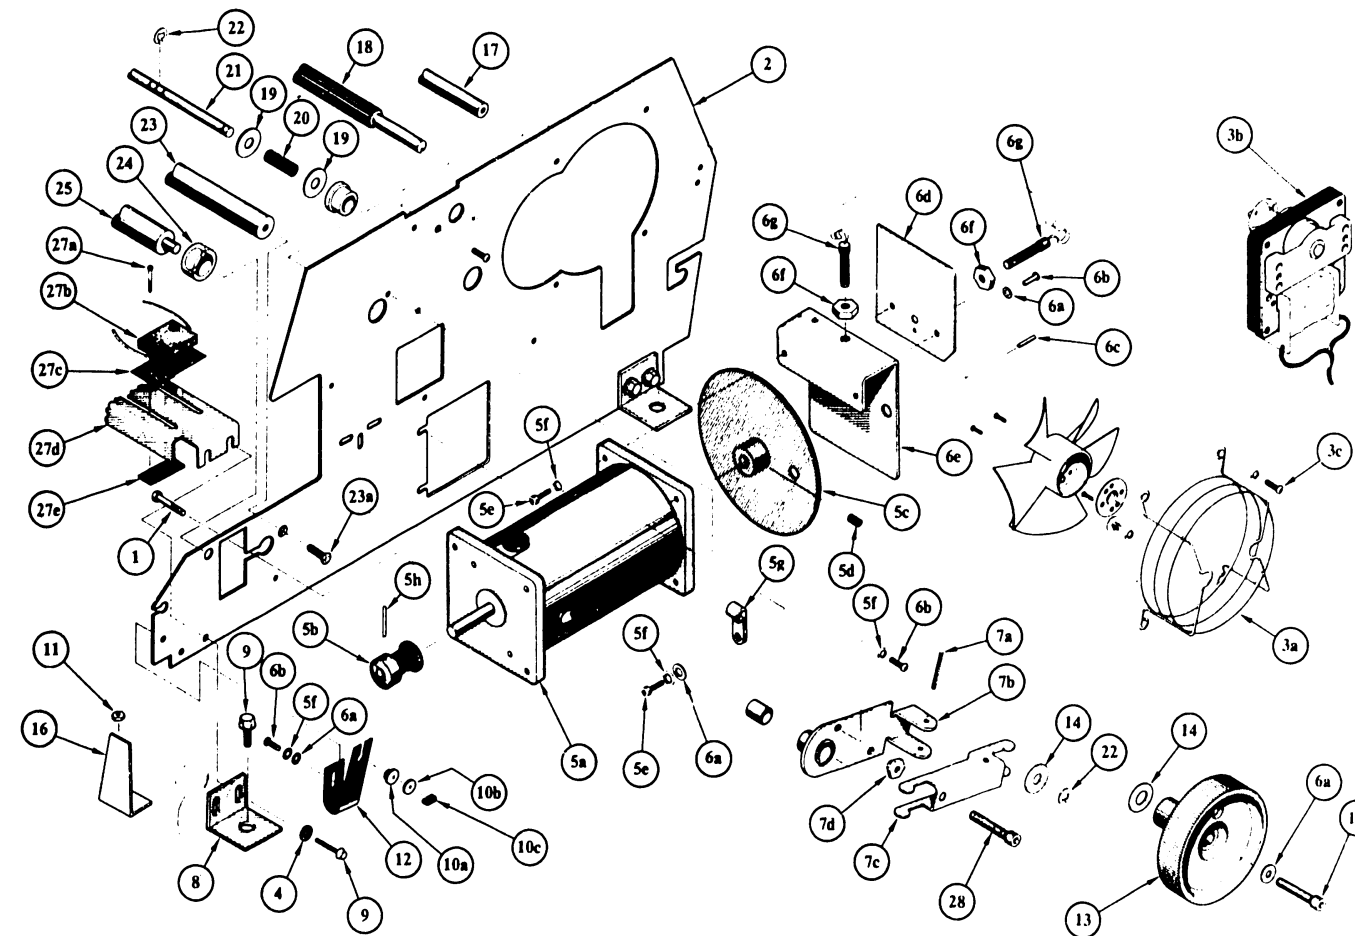

FIGURE 8-3 RIGHT HAND SIDE FRAME ASSEMBLY
**8.3.3 RIGHT HAND SIDE FRAME ASSEMBLY PARTS LIST (SEE FIGURE 8-3)